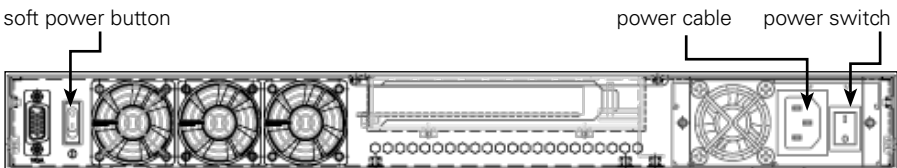

Figure 1: VCS back view
1. Connect the power cable to the back of the VCS (see Figure 1).